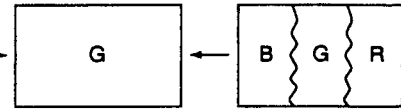
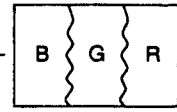

Fig.3-3
Fig.3-4
6. Bring the deflection yoke gradually forward and adjust the deflection yoke so that R and B on both sides of the screen will be green. (Fig.3-2 → Fig. 3-3)
7. If the deflection yoke comes forward too much, the pattern shown in Fig.3-4 will appear. If so, move the deflection yoke backward. (Fig.3-4 → Fig.3-3)